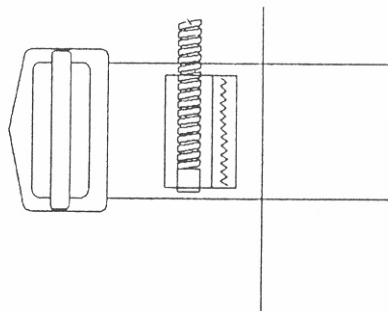

Figure 1.
Step 3. Take the elastic housing keeper and locate it inside the Type 8 chest strap. Sew the elastic housing keeper to the Type 8 webbing (see Figure 1). Note: If there isn't room to sew the elastic keeper in, the four point may have to be removed and the Tape 8 replaced to make room for the elastic keeper. **This alteration should only be done by certified Master Riggers (APF Rigger B).**